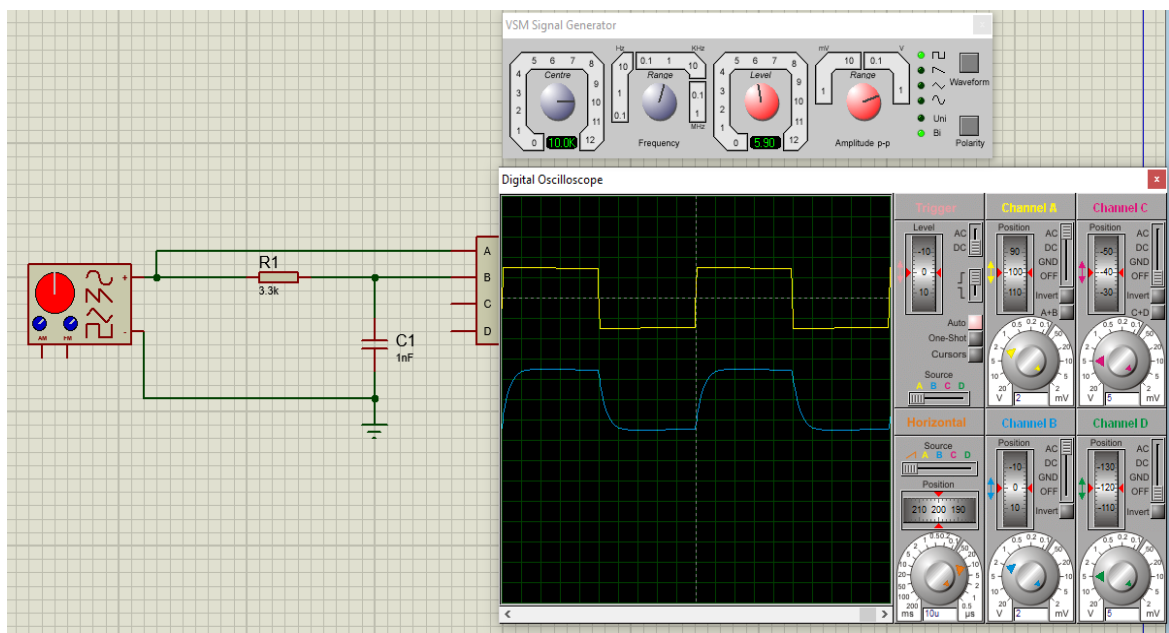

Figure 1.23: RC circuit using signal generator
5. You can now run the simulation and get the waveforms from the oscilloscope. Which can be seen in figure 1.23.
Where V is the applied source voltage to the circuit for $t = 0$. The response curve is increasing and is shown in Figure 1.23.